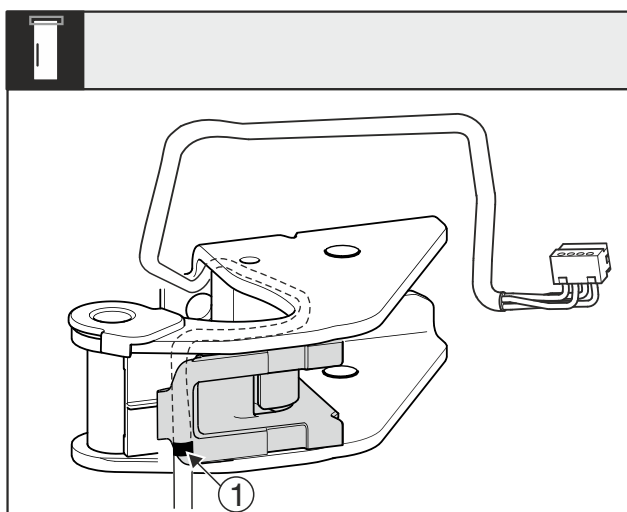

Fig. 28
- ▷ Place the middle marking Fig. 28 (1) on the edge of the cable holder.